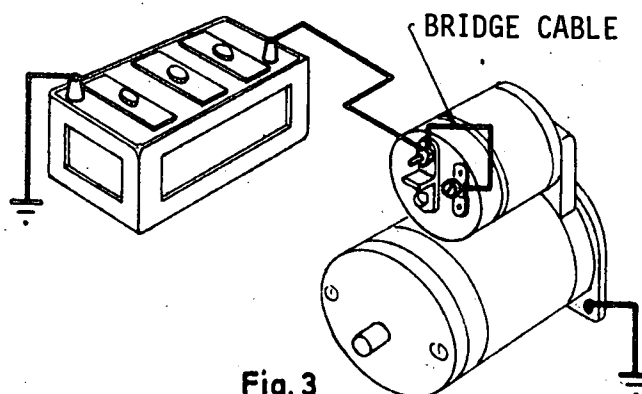

Fig. 3
- c) Use a cable as a bridge to close the solenoid circuit (fig.3).